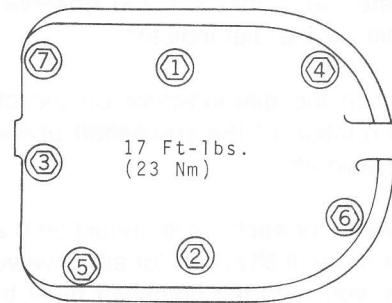

Fig. 26-Cylinder Head Bolt Tightening Sequence (200 and 208 Tractor)
It is important to torque all cylinder head bolts evenly and in correct sequence, Figs. 26 and 27, so that uneven stresses will not be set up in the cylinder wall.
*NOTE: Cylinder head for 208 Tractor, Fig. 26, is equipped with a lifting strap at position 1.*